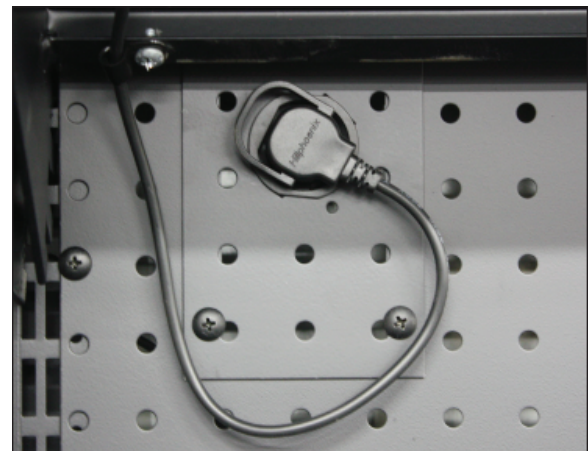

Fig. 7 LED light power cord
1. Unplug the luminaire (Fig. 7).